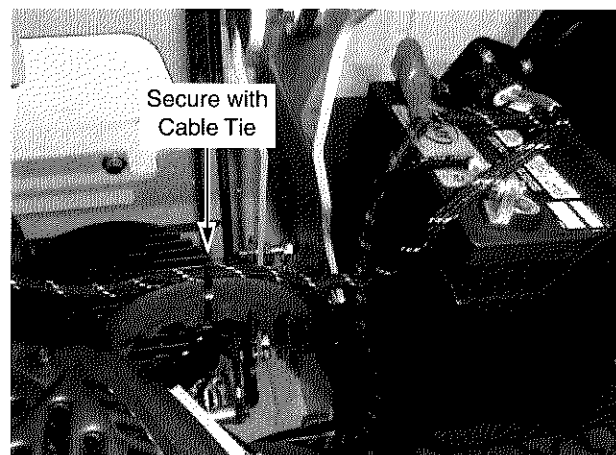

Figure 6. Secure Wire Harness
9. Finish routing the wire harness to the battery box and secure with one (1) cable tie. Attach to the top of hydraulic hose leading toward battery box. See Figure 6.